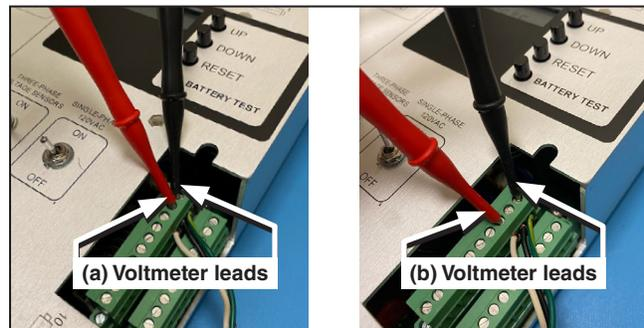

Figure 19. Locations to test the 120-Vac power source using a voltmeter: (a) measuring pin 10 to pin 9, and (b) measuring pin 10 to pin 8.
- STEP 3.** Plug in the 120-Vac source and use a voltmeter to confirm the voltage at the J3 connector before turning the SINGLE-PHASE 120 VAC power switch **On**. The voltage between pin 10 (ground wire) and pin 9 (line wire) should be 120 Vac +/-10%. See Figure 22(a). The voltage between pin 10 (ground wire) and pin 8 (neutral wire) should be less than 1 Vac. See Figure 19(b).